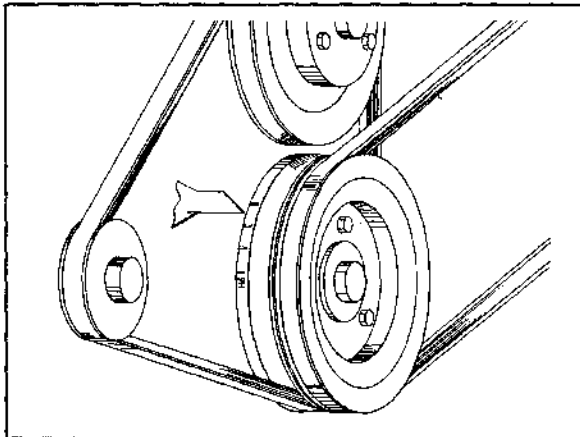

Fig. 9. Left Hand Rotation
4. Direct the light beam from the timing light onto the timing marks. (See Fig. 9 or 10)
Which side of T.D.C. (0°) mark to which the engine should be timed varies according to engine rotation. (See Fig. 9 or 10)